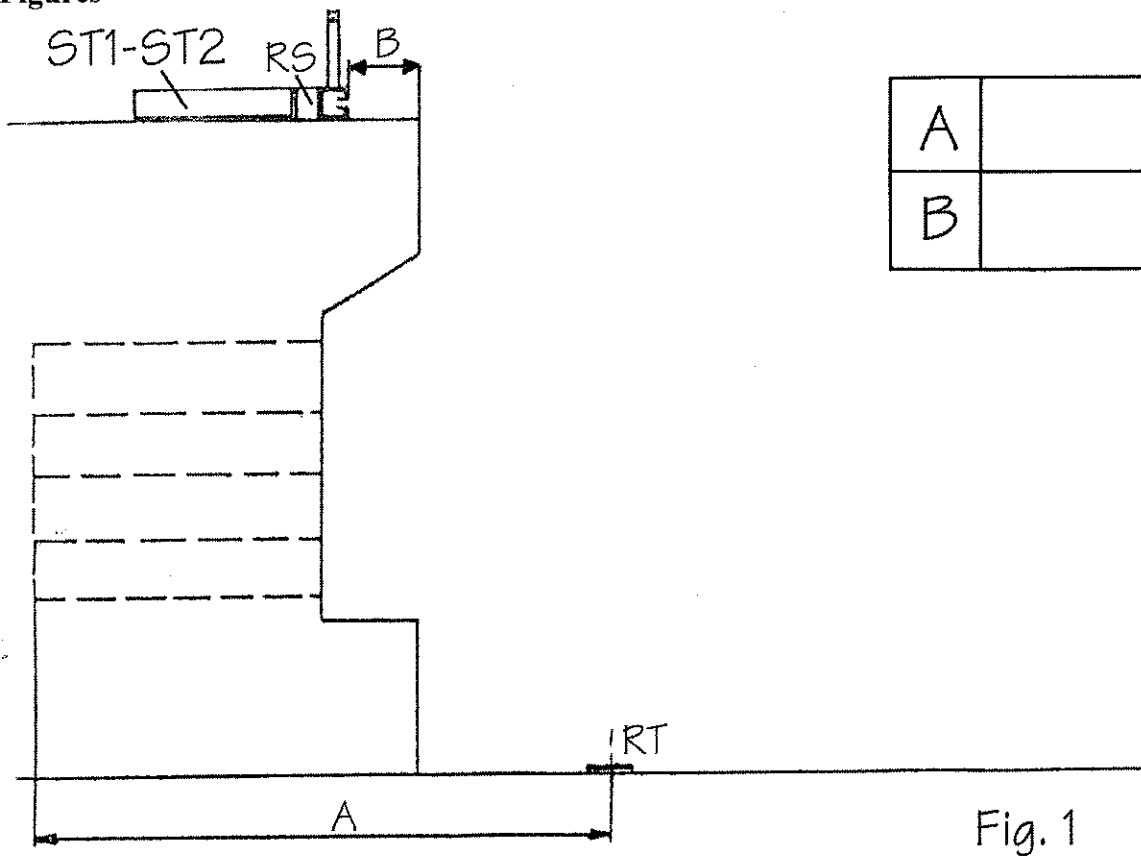

Fig. 1
- 5) Fix the bottom rail (RT) using the expansion cork and respecting the furnished measure. Fig. 1